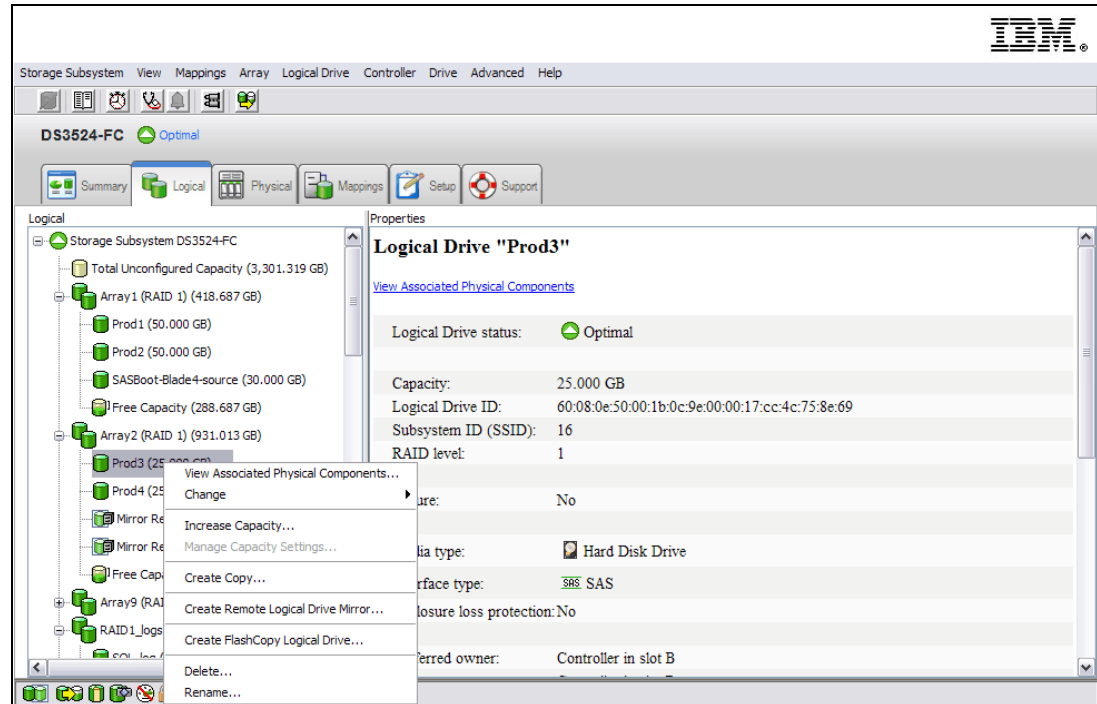

Figure 5-15 Select primary logical drive from logical view
1. Select a logical drive in the logical view of the designated primary storage subsystem and then select **Logical Drive** → **Remote Mirroring** → **Create**. (Or right-click and select **Create Remote Logical Drive Mirror** from the pop-up menu, as shown in Figure 5-15.